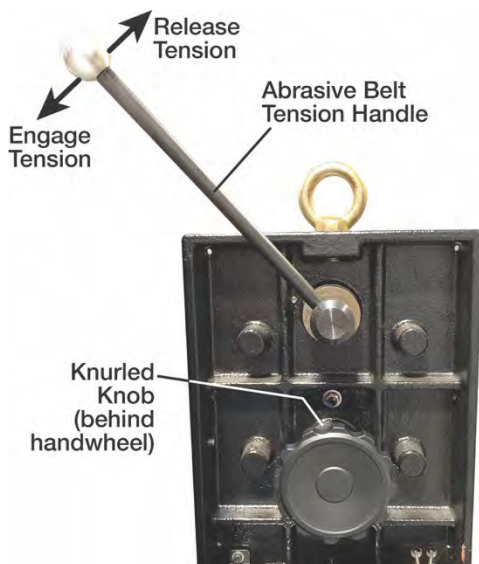

Figure 9-12: Installing Abrasive Belt
Refer to Figures 9-12 and 9-13 when following these instructions.
3. Move to the machine's inboard side and rotate the abrasive belt tension handle clockwise (see Figure 9-12). This rotates the cam which forces the idler roll down and compresses the idler roll tension spring. This removes the tension from the abrasive belt.